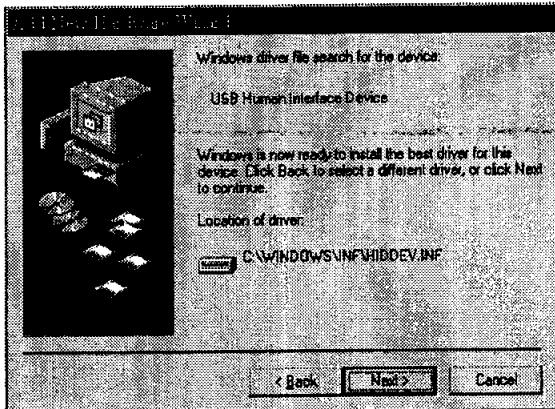
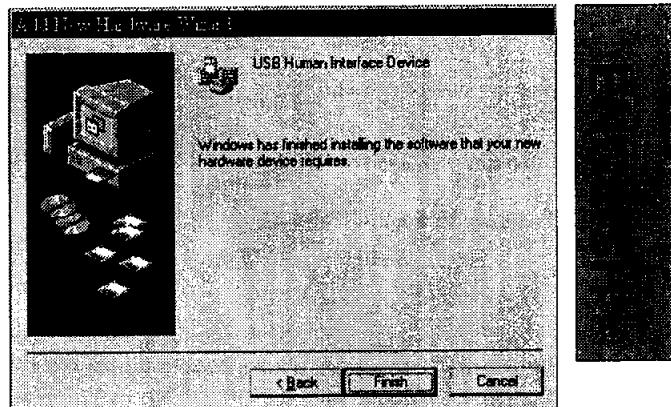

Figure 14
Figure 15
- (4) Click "CD-ROM Drive(C)" , and click "Next". Figure 14 will appear.
- (5) Click "Finish" on Figure 14 and Figure 15 will appear. Click "OK" on Figure 15 to complete Enumeration of Mitsubishi Monitor Function.